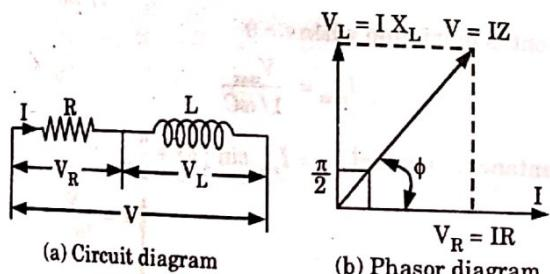

Fig. 2.13.1
- Consider an AC circuit consisting of resistance of R ohms and inductance of L henrys connected in series, as shown in Fig. 2.13.1(a).
- From phasor diagram shown in Fig. 2.13.1(b) the current lags behind the applied voltage V by angle ϕ , which is given by